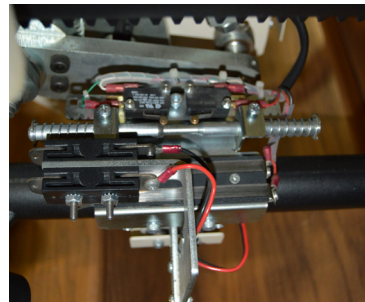

Figure 3-30
5. Connect the wire to the charge station and ensure the red wire matches the location of the red wire on the chassis. *See Figure 3-30.*